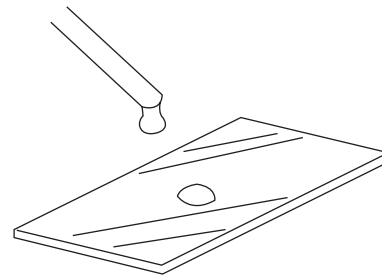

Fig. 9-8
③Apply a small quantity* of contact liquid onto the contact surface of the sample (Fig. 9-8).